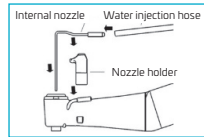

Fig. 2
- Place the internal nozzle into the nozzle holder. (Figure 2)